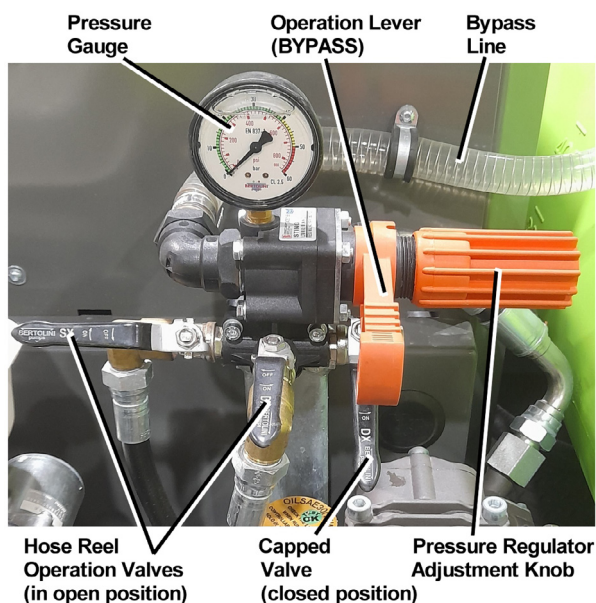

Figure 7 – Pressure Regulator
- At the pump, check that the pressure regulator is set to the minimum position by turning the adjustment knob anti-clockwise, refer to Figure 7.